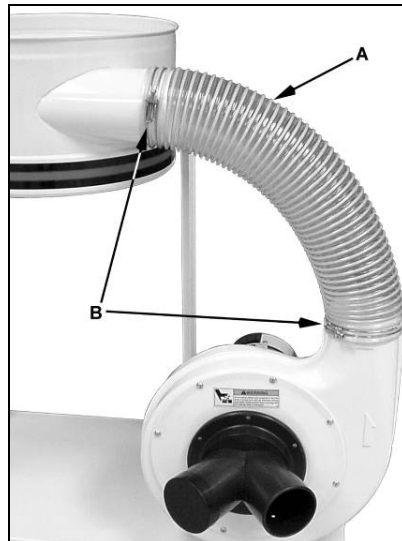

Fig 6
Attach the hose (A, Fig 6) with 2 provided clamps (B).